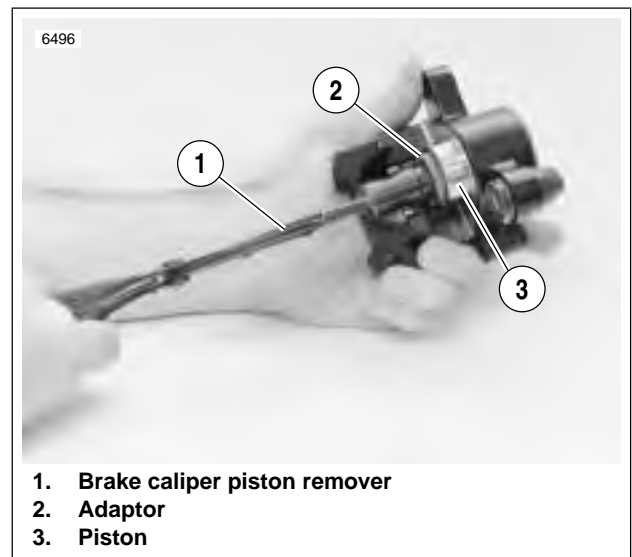

Figure 2-54. Removing Rear Brake Caliper Piston
3. See Figure 2-54. Remove piston (3) using BRAKE CALIPER PISTON REMOVER (1) (Part No. B-42887) with adaptor (2).